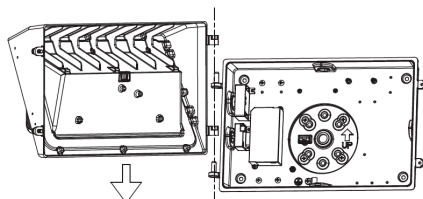
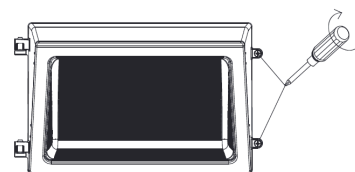

Fig. 2.8
Fig. 2.9
7. Attach the front cover of the luminaire back to the mounting plate (Fig. 2.8) and tighten both screws on the side of the luminaire (Fig. 2.9). Remember to reconnect the quick disconnect plug before closing the luminaire.